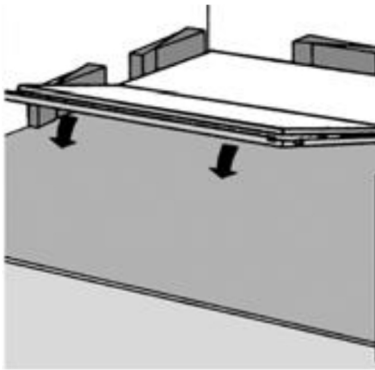
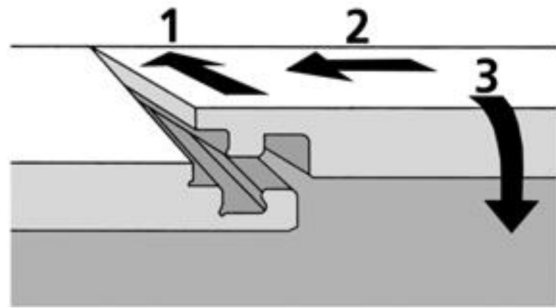

Fig.4
Fig.5
3) Continue to lay each remaining panel by folding the length of the panel first (Fig.4) then placing the end joint in position (Fig.5).